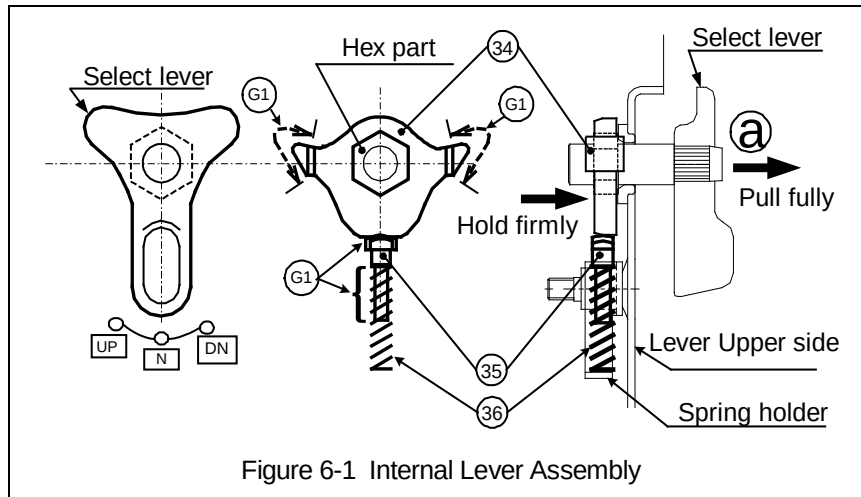

Figure 6-1 Internal Lever Assembly
- Apply Harrington lubricating grease (Part No. ER1BS1951) or an equivalent to industrial general lithium grease, NLGI No. 0, to the bearing surfaces of the load chain links as indicated by the shaded areas in Figure 6-1. Also apply the grease to the areas of the load chain (shaded areas in Figure 6-1) that contact the load sheave. Insure that the grease is applied to the contact areas in the load sheave pockets.
Refer to Figure 6-1, proceed as follows:
- 1) Set the Selector Lever on the (37) lever assembly to the 'N' position.
- 2) With the Selector Lever pulled in the 'a' direction, as shown in the left picture, insert the hex part of the Selector Lever into (34) Select pawl.
- 3) Apply (G1) grease lightly to the pawl of (34) Select Pawl and to the top of (35) Spring Shaft as shown in Figure 6-1.
- 4) Insert (35) Spring Shaft into (36) Select-Pawl spring and attach them into the Spring Holder.